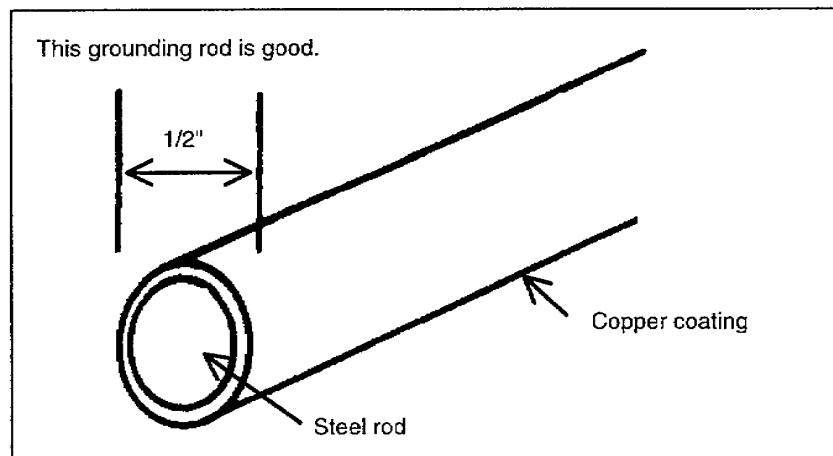

Figure 1-3. Copper-coated, steel grounding rod
- b. A copper-coated, steel grounding rod is at least 1/2 inch in diameter (Figure 1-3).